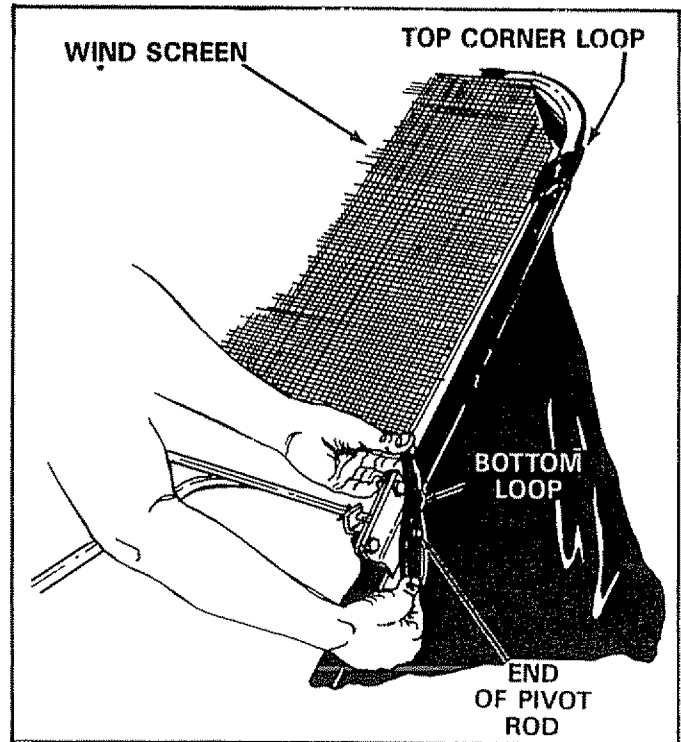

FIGURE 24
- Assemble the wind screen over the top of hopper bag frame by simply hooking the top corner loops and pull the bottom loops down over the ends of the pivot rod. See figure 24.